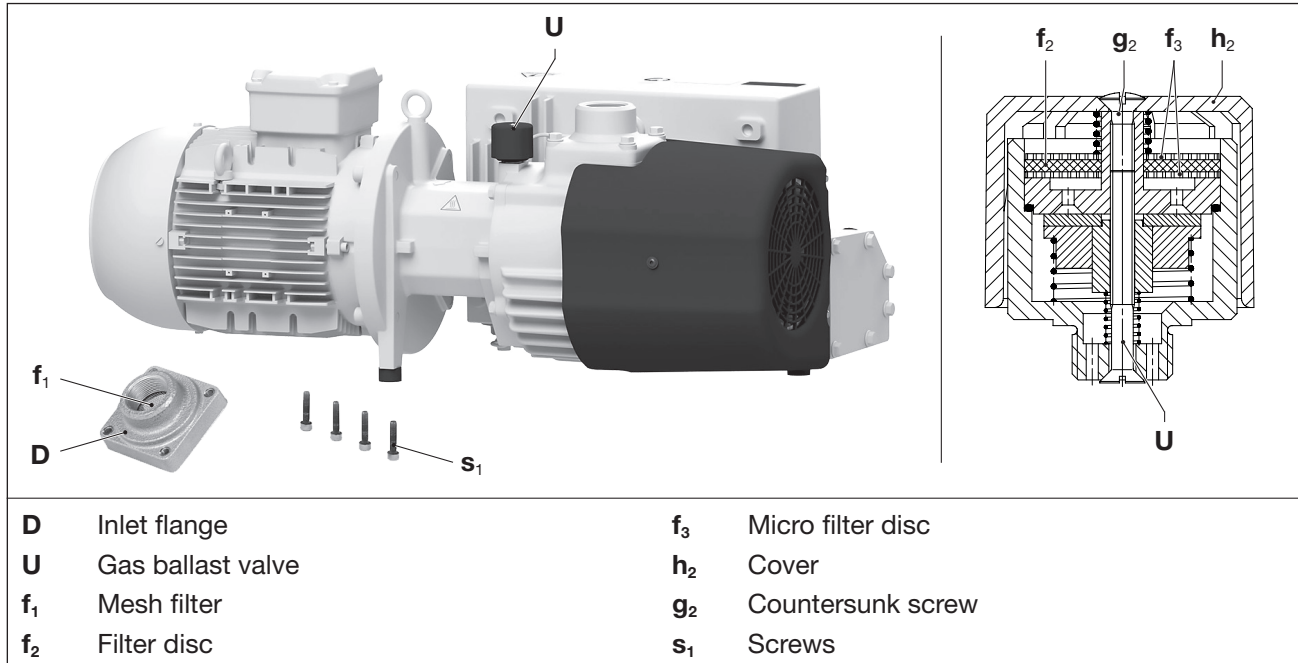

Fig. 6 Mesh filter and gas ballast valve
Depending on the pollution of the inlet medium, the mesh filter (Fig. 6/f₁) has to be cleaned more or less by washing or blowing off or it must be replaced.
- c) Take off the suction flange (Fig. 6/D) after releasing the screws (Fig. 6/s₁).
- d) Clean the mesh filter (Fig. 6/f₁).
- f) Put on the suction flange (Fig. 6/D) and secure it with the screws (Fig. 6/s₁). Tightening torque: 35 Nm
The pumps work with a gas ballast valve (Fig. 6/U). The inbuilt filter disc (Fig. 6/f₂) and micro filter discs (Fig. 6/f₃) must be cleaned more or less often depending on how dirty the medium flowing through is. In case of the VCX, clean the filter parts of the two gas ballast valves.
- By undoing the countersunk screw (Fig. 6/g₂) and removing the plastic cover (Fig. 6/h₂), the filter parts can be removed for cleaning.
- Clean the filter disc (Fig. 6/f₂) and the both micro filter discs (Fig. 6/f₃) by purging or replace it.
- Place the filter disc (Fig. 6/f₂) between the micro filter discs (Fig. 6/f₃) and insert into the valve. Put on the plastic hood (Fig. 6/h₂) and fasten with the countersink screw (Fig. 6/g₂). Tighten the screw by hand.